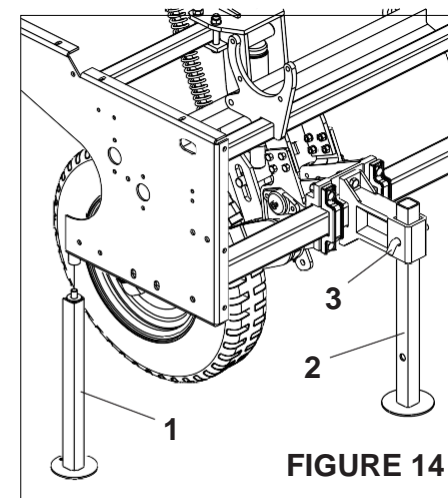

FIGURE 14
1 - To make new spacings between lines, raise the seeder by activating the piston. Place the rear support bracket (1) lower the support bracket (2) with the locking pin (3). **FIGURES 14**